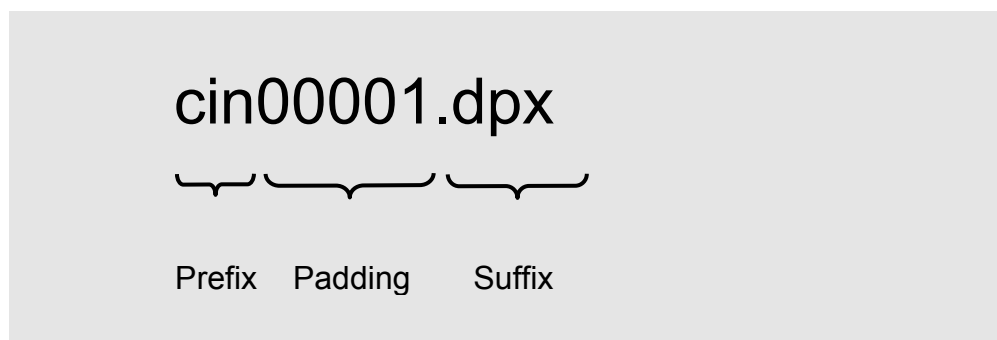

Figure 32: Sequence frame name.
3. The prefix, suffix, and padding information used to identify each frame in the source clip. This information only applies to clips on XFS and tape devices. See Figure 32 for a description of the prefix, suffix, and padding.
3. The prefix, suffix, and padding information used to name each frame in the target clip. This information only applies to clips on XFS and tape devices. See Figure 32 for a description of the prefix, suffix, and padding.